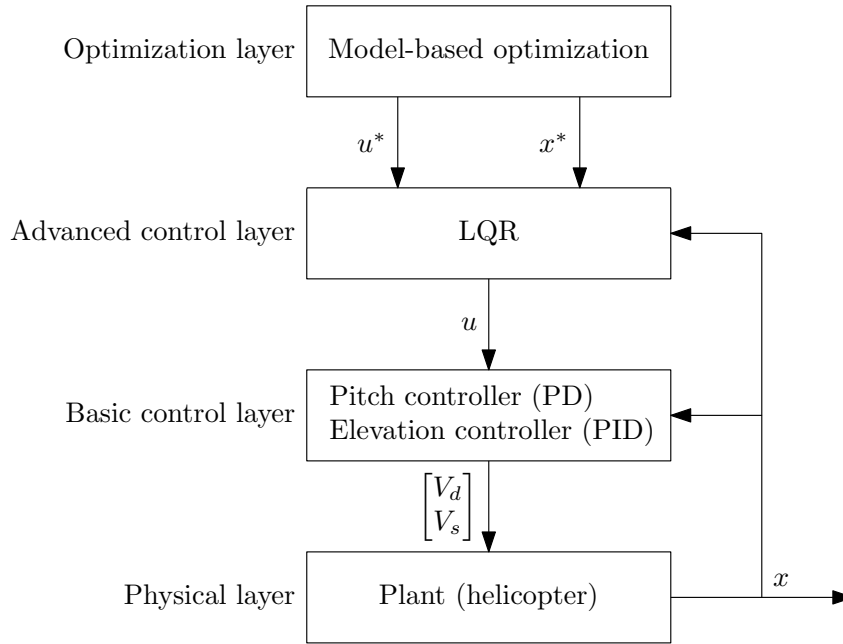

Figure 8: Illustration of the layers in the control hierarchy used in Sections 10.3 and 10.4.
As long as the system is following the calculated optimal trajectory x^* the calculated input sequence u^* is implemented. If a deviation from x^* is observed, the manipulated variable will be modified by the feedback term. This new control hierarchy is illustrated in Figure 8.
- (A) Rather than stabilizing the predicted trajectory x^* with an LQ regulator, one can simply re-optimize from the new measured position to get a new prediction x_{new}^* , then apply the newest prediction u_{new}^* to the system.
- (B) Stabilize the initially predicted trajectory using MPC control rather than with LQ regulation.
How would you implement the MPC scheme (A)? Discuss advantages and disadvantages with an MPC controller (A) compared to the controller you have implemented (prediction +LQ). Also, what would the structure in Figure 8 look like if you used MPC (A).
How would you implement the MPC controller (B), and what would the structure in Figure 8 look like if you used the MPC scheme (B). Here we don't want a detailed description, but only short explanation. What are some advantages and disadvantages of using (B) rather than (A)? Can you somehow combine these two approaches?